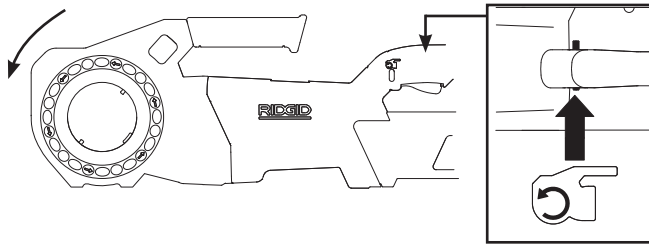

Figure 5B – REVERSE (Counter-Clockwise) Switch Position
- Repeat the process for the Reverse operation (see *Figure 5B*). If the power drive does not rotate in the correct direction, or the ON/OFF switch does not control the machine operation, do not use the machine until it has been repaired.